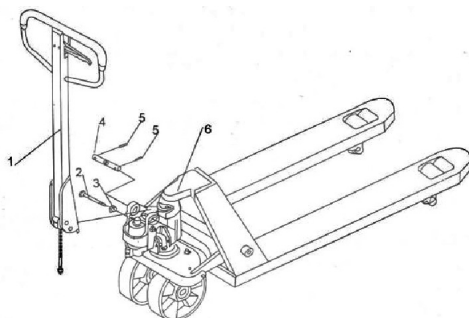

Fig. 5: Samling af trækstang
c) Push the drawbar down; remove the pin (2, fig. 5).
d) Set the operating handle to the 'lift' position, then raise the lift plate with the pin (2, Fig. 5) and insert the adjusting bolt into the front slot of the pin.
e) Use a hammer to insert the second screw (5, Fig. 5) into the second hole on the shaft.